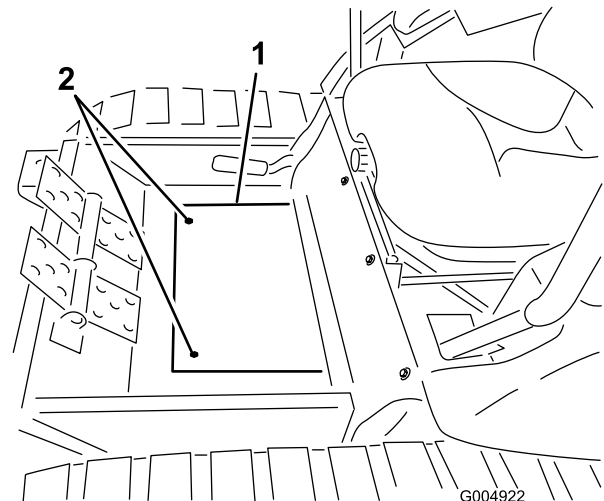
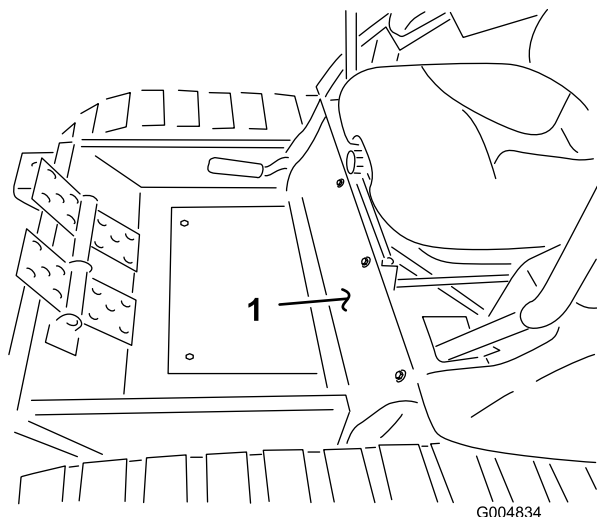

Figure 61
Figure 62
5. Install the floor plate cover (Figure 61) and the front cover (Figure 62).